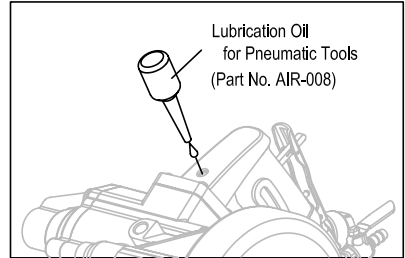

Figure 5
3. Add 5-6 drops of the Rust Inhibitor Oil into the oil port. (See Fig. 5)